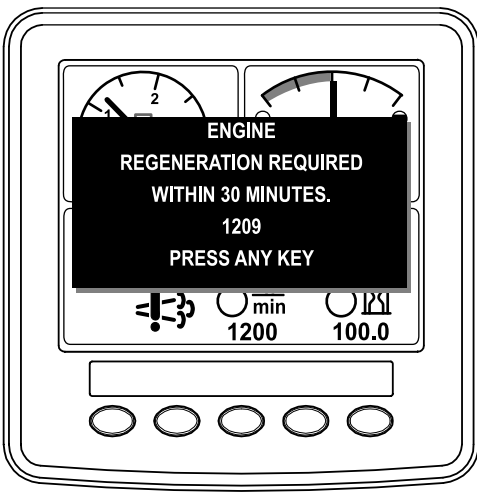

Figure 4
- If you ignore the request for a parked regeneration (displayed in the InfoCenter) and continue to operate the machine (Figure 4), a critical amount of soot may accumulate in the DPF.